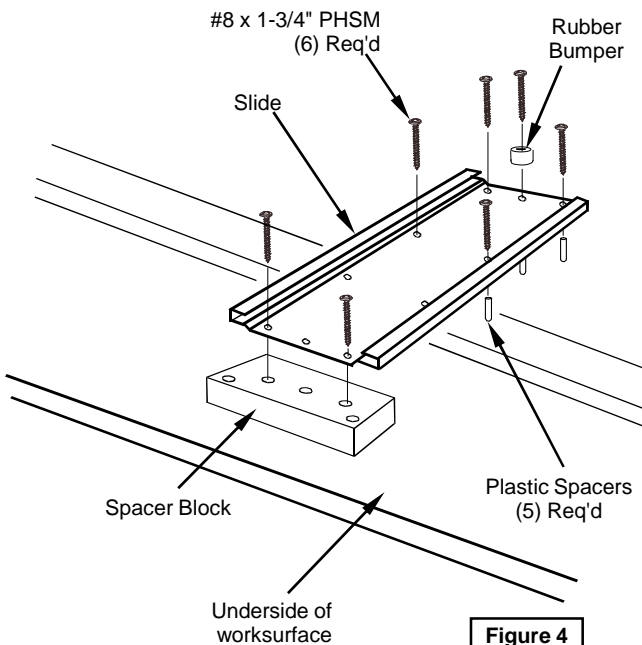

Figure 4
- C. Place the spacer block and (5) spacers under the tray as shown in **Figure 4.**
- D. Attach the slide, block and spacers using (6) #8 x 1-3/4" PHSM screws and tighten securely.